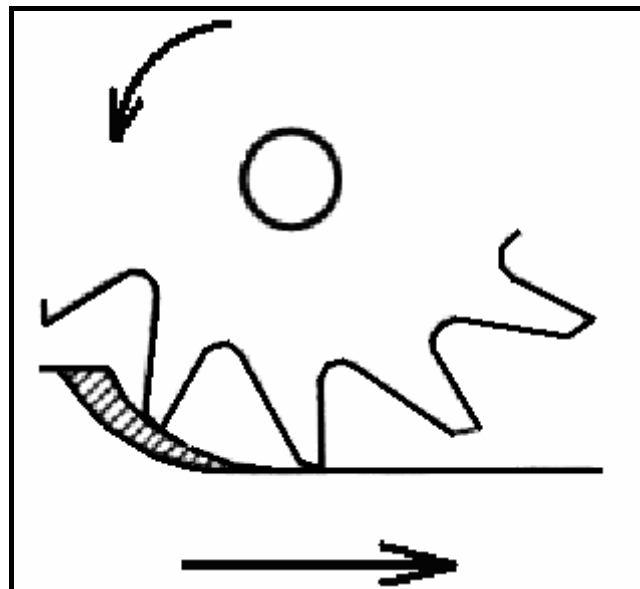

FIGURE 1.2
- 1.7 Identify the cutting method, shown in FIGURE 1.2 below, that can be used on a milling machine.